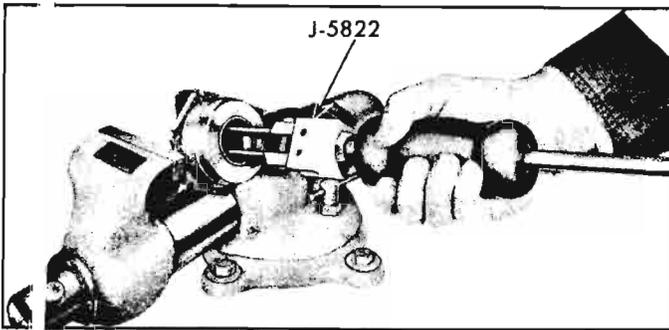

Fig. 4-48—Removing Bearing Cup
- 1 Remove wormshaft bearing cups using Tool J-5822 with Tool J-2654 (fig. 4-48).